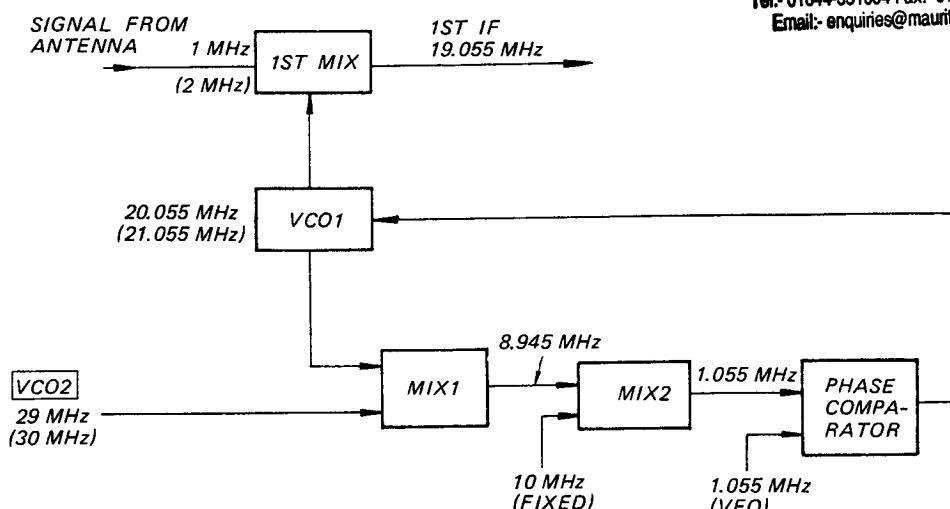
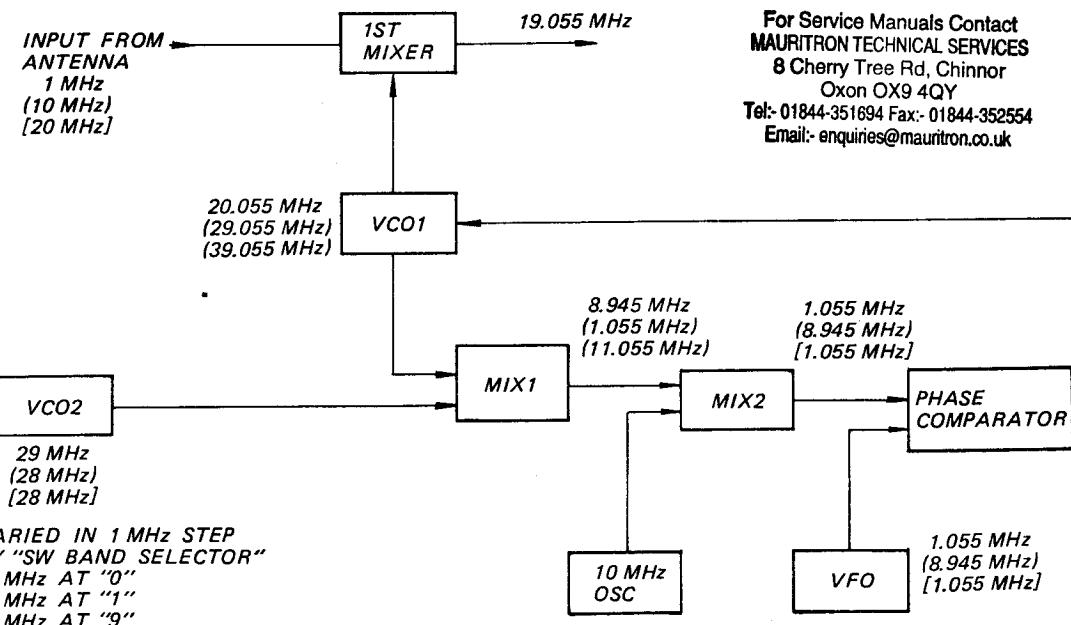

Fig. 5
Fig. 7
- 1) Fig. 5 is a block diagram showing the principle of the PLL circuit employed in this set. Let us consider this block diagram.
When the two signals are mixed by the mixer 2, a 1.055 MHz signal ($10 - 8.945 = 1.055$ MHz) is produced as the output of the mixer 2, and is then fed to the phase comparator. Meanwhile, a separate signal from an oscillator is also fed to the phase comparator as shown in Fig. 5 [Hereinafter, this oscillator will be referred to as the VFO.]
With a PLL circuitry as shown in Fig. 5, it is the stability of the three oscillators, VCO2, the 10 MHz fixed oscillator, and the VFO, that determine the overall stability of the PLL. By using a crystal oscillator for the 10 MHz fixed oscillator, ample stability can be obtained. As for the VFO, since its oscillator frequency is not so very high, stable oscillation can be obtained even with an L-C oscillator.
Fig. 7 is essentially the block diagram shown in Fig. 5 to which the frequencies of each of the sections are indicated when receiving 1 MHz, 10 MHz, and 20 MHz signals.
The following frequencies are fed out from the output of the mixer 2 when receiving a 10 MHz signal as indicated in Fig. 7.
The frequency of VCO1 is controlled by first comparing the signals by the phase comparator, obtaining the difference in the form of a voltage difference, and feeding this differential to the variable capacitance diode of VCO1. As shown in Fig. 7, whether it is a 1 MHz, 10 MHz, or 20 MHz signal that is being received, the frequency that is fed to the phase comparator is always 1.055 MHz. This would make it seem that VCO1 will constantly be oscillating at the same frequency, however, the oscillator circuit of VCO1 is switched by means of a switch for 1 MHz level signals, 10 MHz level signals, and 20 MHz level signals, and so it never oscillates at the same frequency.